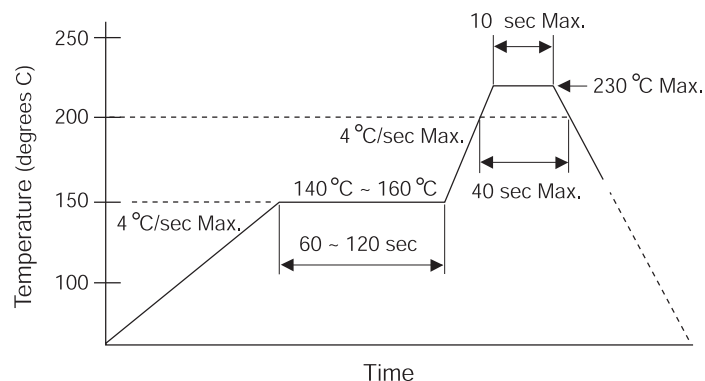

Figure 5. Temperature Profile at the Top Surface
- The temperature profile at the top surface of ZHX1010, shown in Figure 5, is recommended.